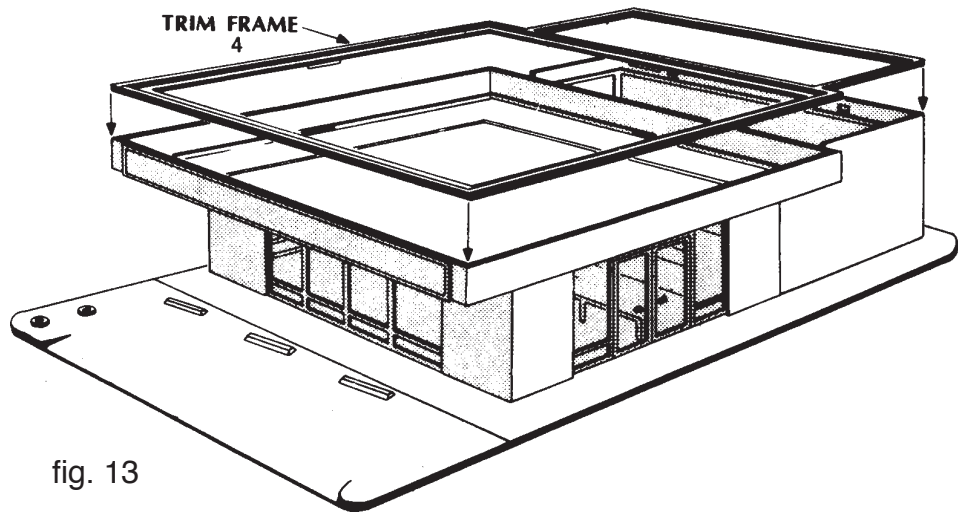

fig. 13
13. Now position the TRIM FRAME (4) over the facade strips and the left, rear and right walls and cement. (Fig. 13)